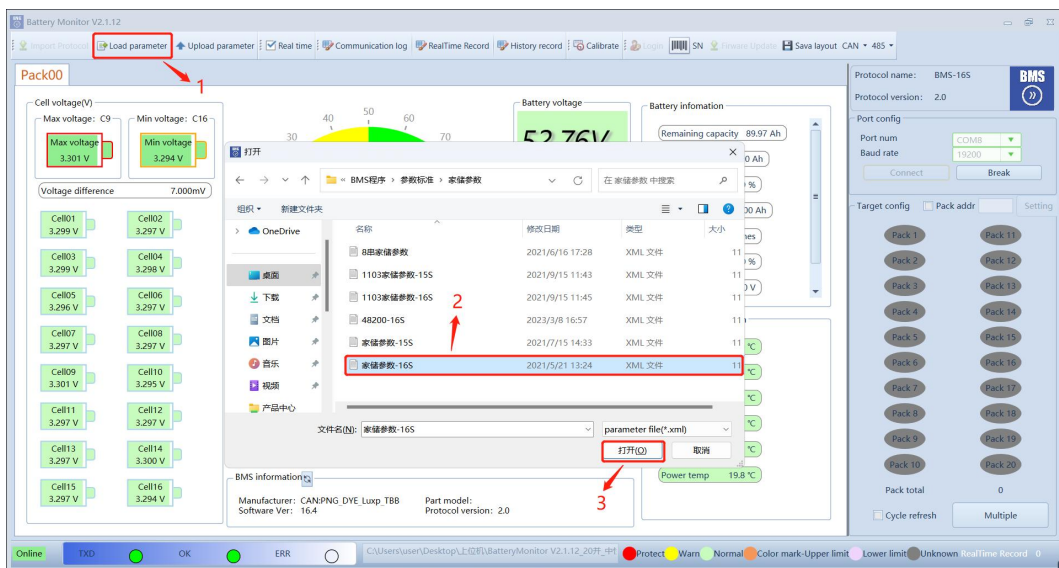

Figure 6-2
- 2) Click "Load Parameters" to select the parameter document to load,Figure 6-2